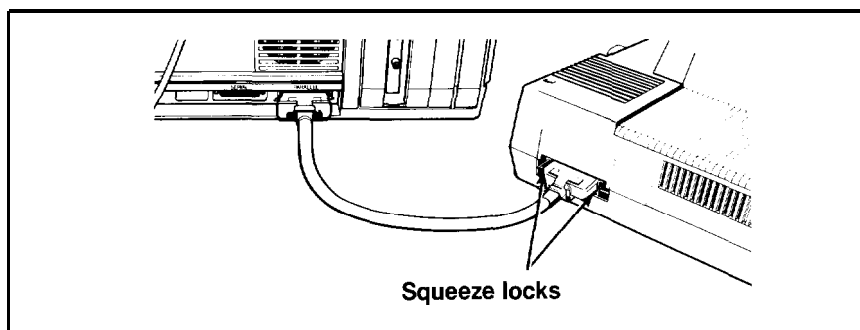

Figure 2-6. Printer connection
4. Connect the other end of the cable to the printer. Secure the cable by placing the squeeze locks at each side of the printer port into the connectors on each side of the cable. See Figure 2-6.